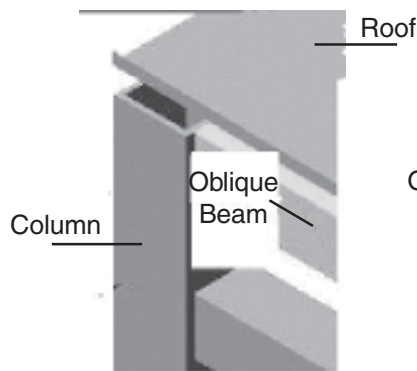

Figure 5
- a. Attach the roof to the roof frame using self-tapping screws with a rubber gasket. (figure 5).